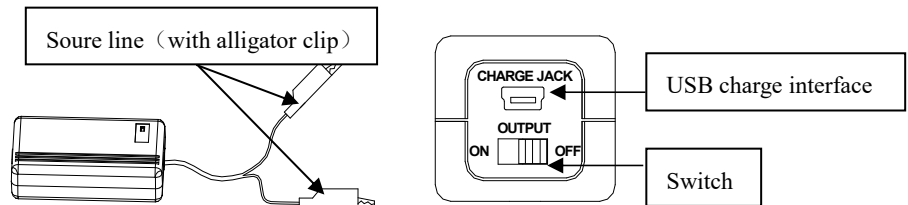

Figure 28 CA portable DC power supply
**Step 1:** Connect the 24V DC Power Supply with the instrument according to figure 28.